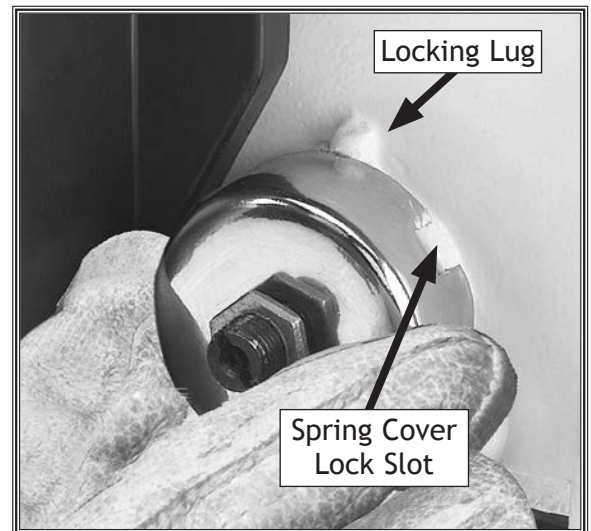

Figure 60. Typical spring cover lock slot and locking lug.
7. Pull the cover outward just enough to disengage the spring cover lock slot from the locking lug (see **Figure 60**).